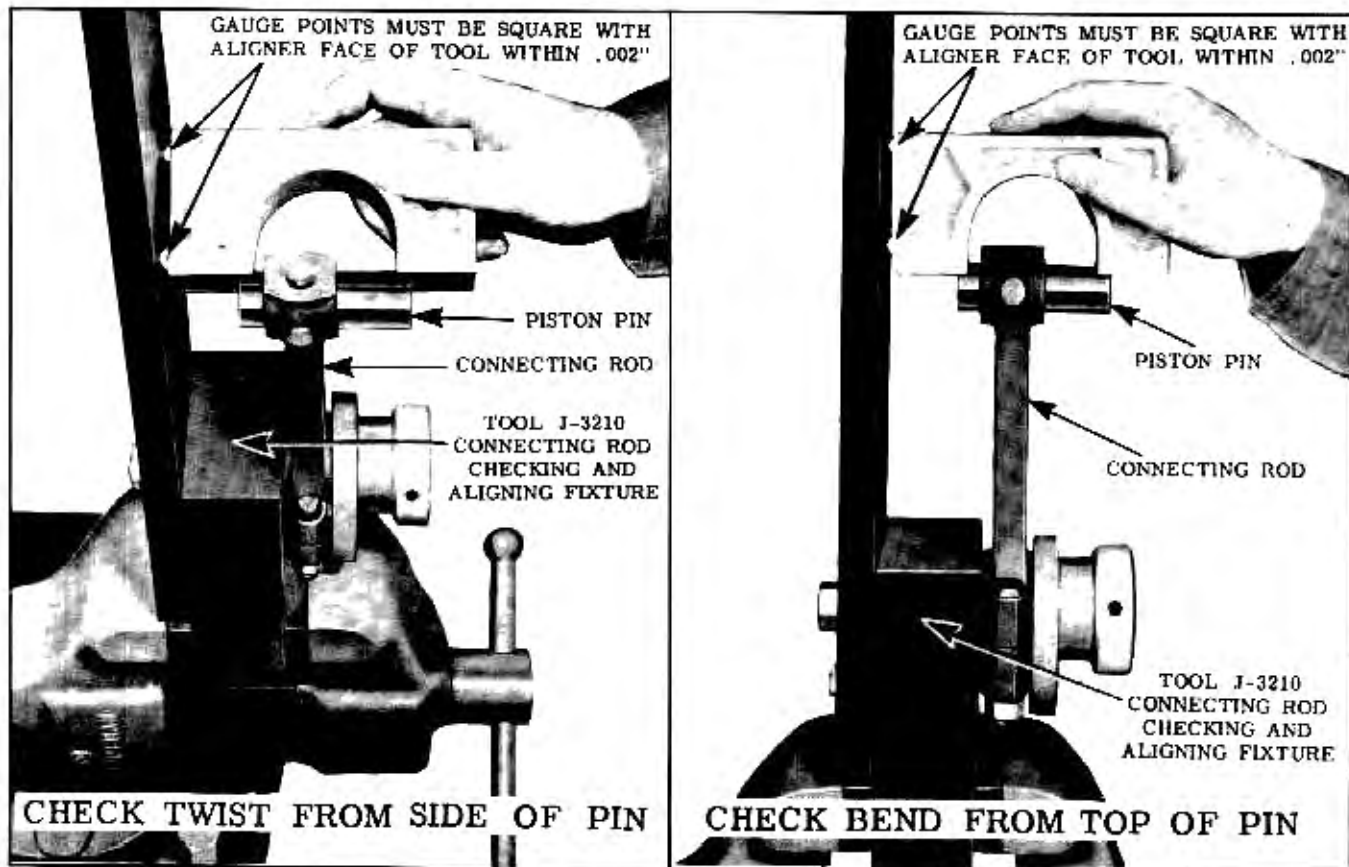

Fig. 6-58 Checking Connecting Rod Alignment
7. Check alignment of connecting rod with Connecting Rod Checking and Alignment Fixture J-3210 (Fig. 6-58). The two points on the gauge must be square with aligner face within $.002''$ at both top and side of pin. (Gauge check at top tests for bend in rod, whereas check at side tests for twist.) If rod is not in proper alignment, it must be replaced. **CAUTION:** Do not attempt to straighten a bent or twisted rod.